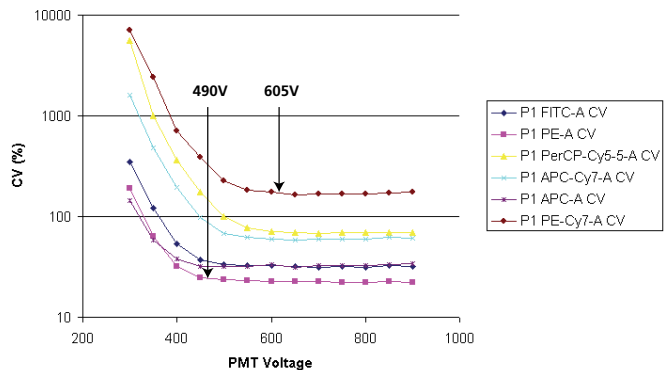

Figure 3. Analyzing the instrument response curves and determining the voltage required for optimal resolution sensitivity.
An example of the plotted data is shown in *Figure 3*.
9. Determine the inflection point for each performance curve as shown in *Figure 3*.